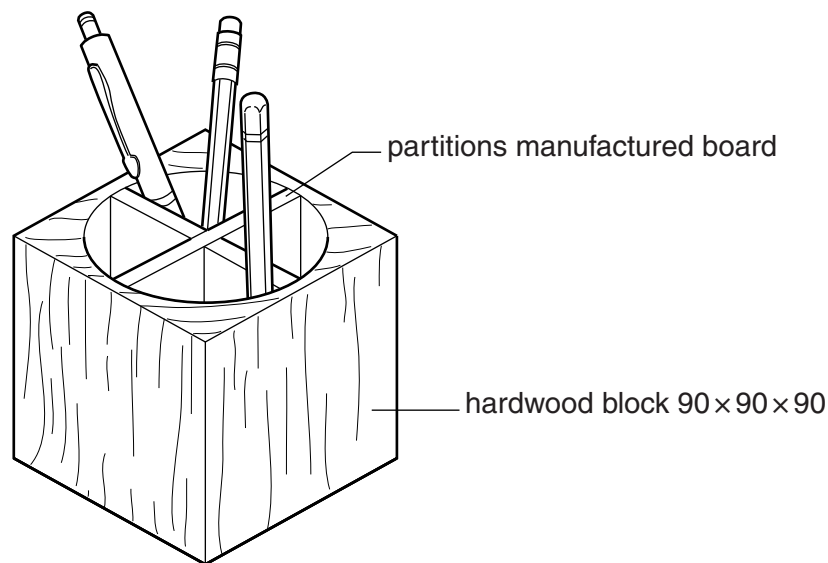

Fig. 4
- 3 Fig. 4 shows a pen and pencil holder made from hardwood and manufactured board.
- (b)** Use sketches and notes to show how the manufactured board could be joined to make the partitions shown in Fig. 4.